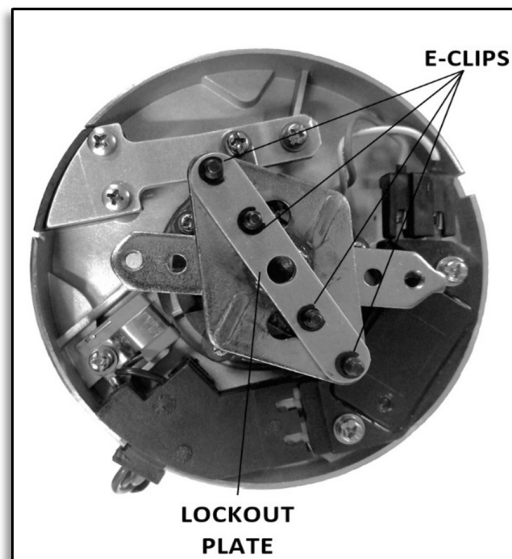

Figure 2. Lock out plate assembly.
3. Install the lockout plate and the e-clips to secure the plate. The mechanical advance is now locked-out (Figure 2).